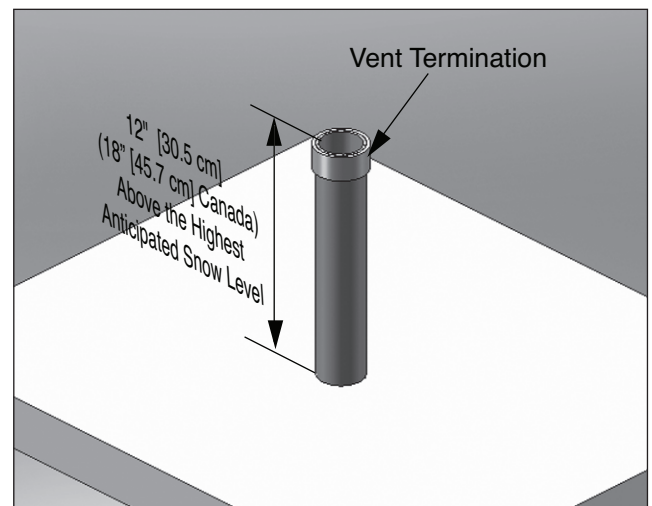

Fig. 14 - Category IV - Vertical Termination of Vent Pipe
3. The vent piping must terminate vertically with a coupling to accept the bird screen and must be located 12 in. [30.5 cm] (18 in. [45.7 cm] Canada) above the highest anticipated snow level as shown in *Fig. 14 on page 21*
3. Locate the vent pipe penetration to provide clearances as described in *Fig. 14 on page 21*.
3. The vent piping must terminate vertically with a coupling as shown in *Fig. 14 on page 21*.
Do not extend the vent pipe above the roof beyond the dimensions shown in *Fig. 14 on page 21*. Extended exposure of the vent pipe could cause condensate to freeze and block the vent pipe, resulting in substantial property damage, serious injury, or death.